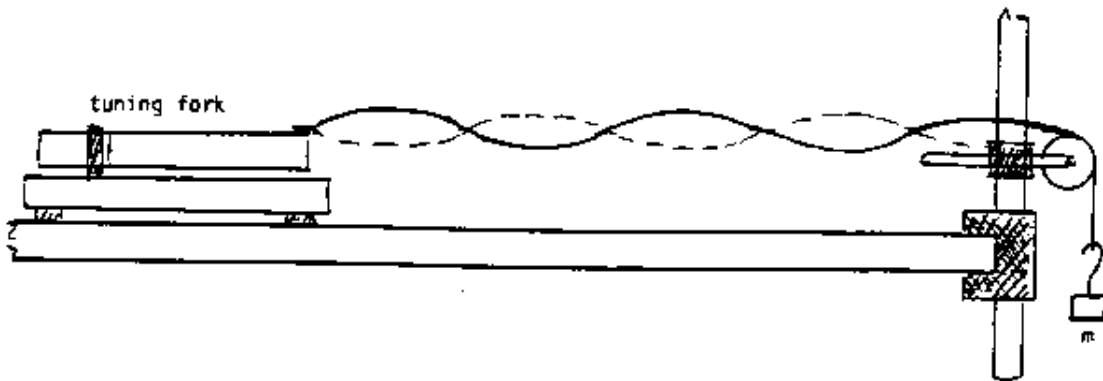

Figure 2. The apparatus set up with standing waves on the string.
In the experiment a string is attached to one tine of an electrically-driven tuning fork. The other end of the string passes over a pulley to a weight hanger. (Refer to Figure 2.) The vibrating tuning fork sets up standing waves on the string and the amplitude of these waves can then be maximized by changing the weight on the weight hanger or by moving the entire tuning fork assembly toward or away from the pulley.
- b) Set up the apparatus as shown in Figure 2 with a total of 100 grams hanging from the end of the string. Connect the power supply to the tuning fork terminals with the two leads, and plug in the power supply. Record the total mass hanging from the end of the string.